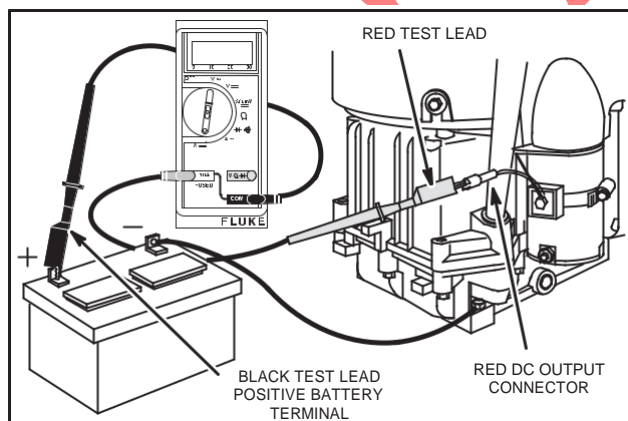

Fig. 20 – Testing Regulator-Rectifier
4. Attach RED test lead clip to red DC output terminal on regulator-rectifier, Fig. 20.